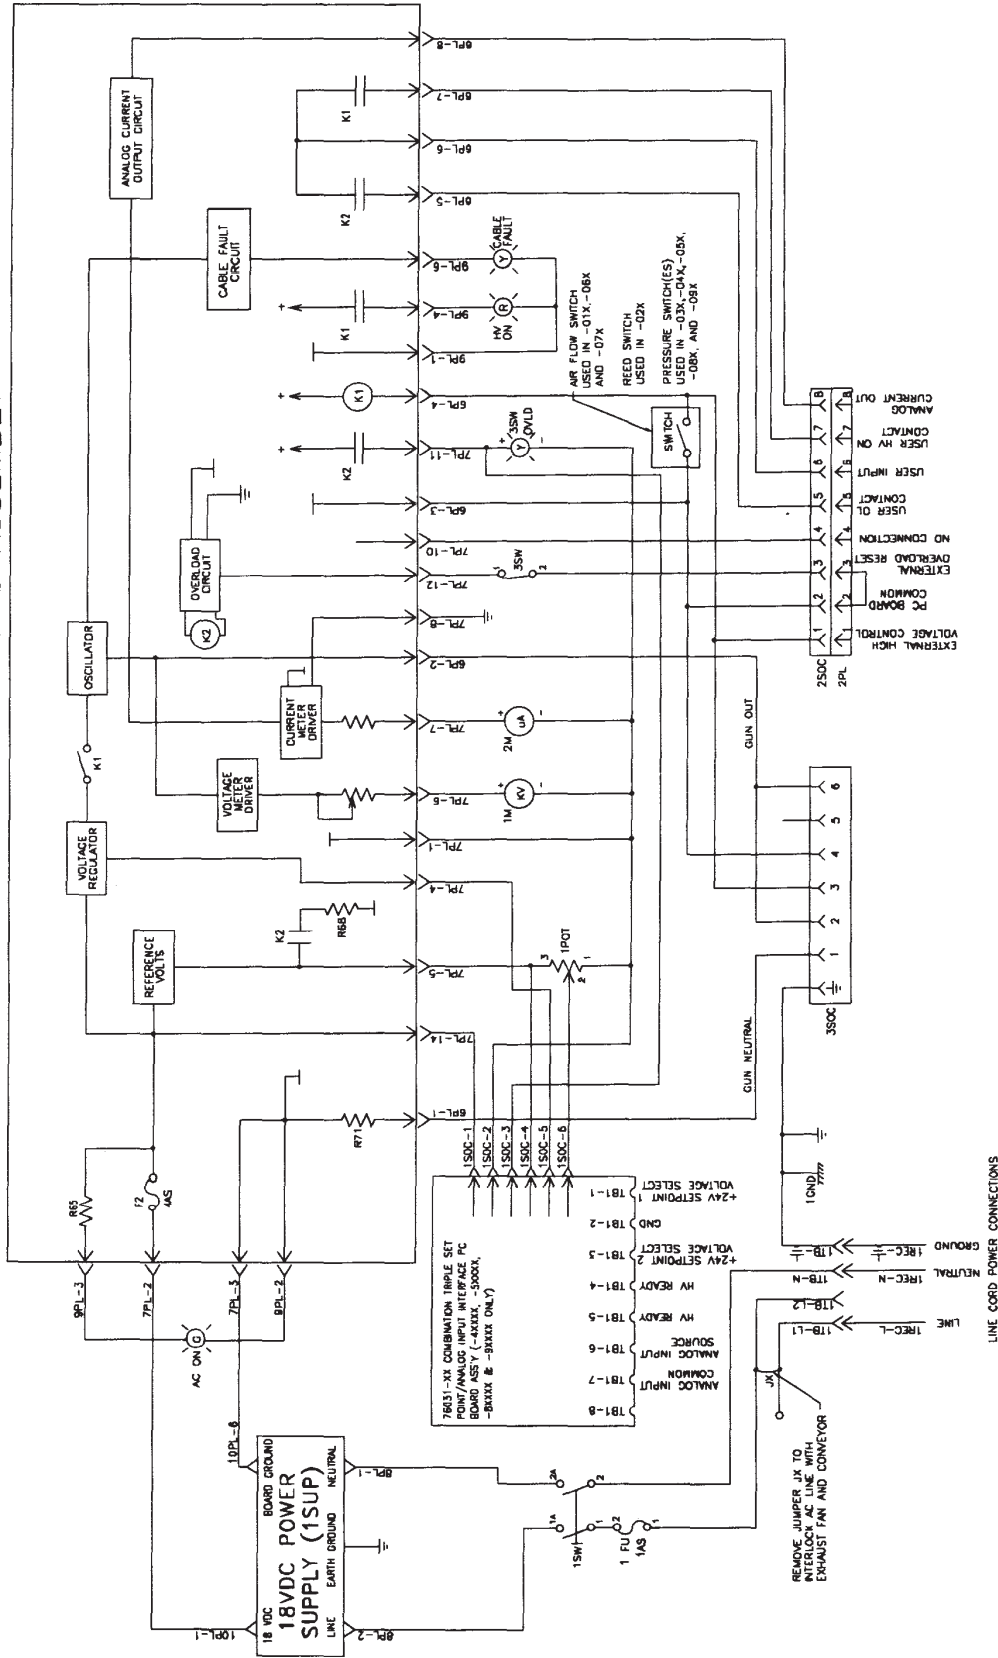

Figure 10: 9040 Cascade Control Unit Block Diagram
3. Disconnect the low voltage applicable cable and connect one lead of the ohmmeter to the ground stud and the other to the center pin of the low voltage cable socket on the control unit. If the ohmmeter reads greater than 25 ohms, repair the internal connections between these points (green wires from 1TB-GROUND TO 1GND (see Figure 10) and from 1TB-GROUND to center pin of low voltage cable socket).
- A spare F2 PC board fuse is included from the factory. (See Figure 10 for location.)